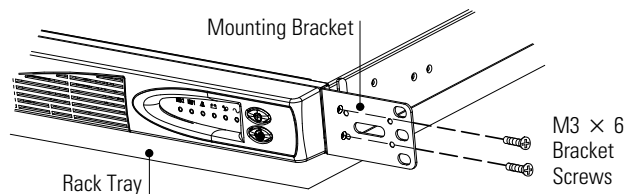

Figure 11. Rack Tray and Mounting Bracket for a 23" Rack
2. On each side of the UPS, attach the short end of a mounting bracket to the UPS using two of the M3 × 6 screws (see Figure 11).